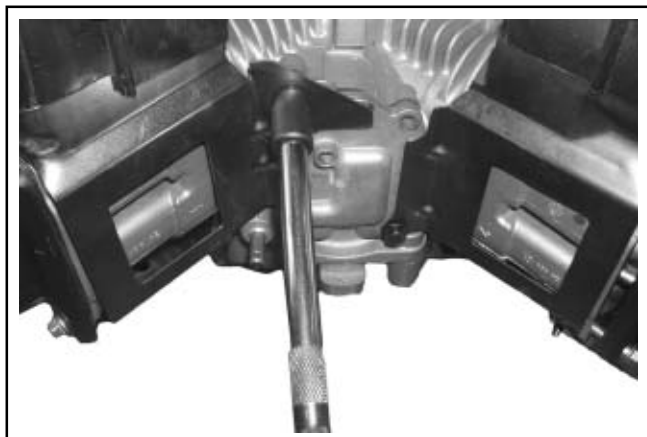

Figure 9-28. Removing Inner Baffles.
2. Remove the inner (valley) baffles. See Figure 9-28.